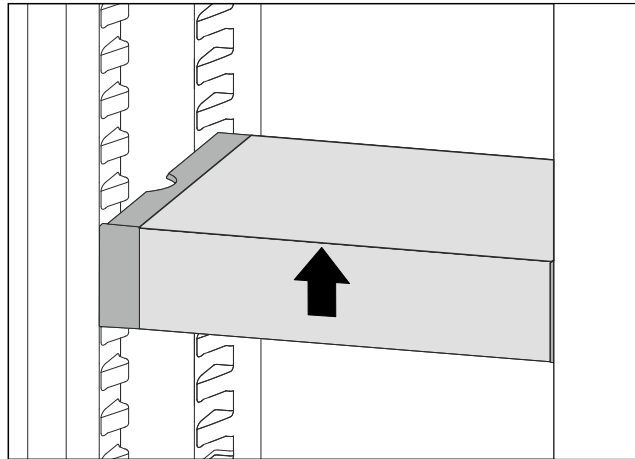

*Fig. 76*
- ▶ Place the VarioSafe drawer behind the stoppers on desired rib *Fig. 76 (1)* or *Fig. 76 (2)*.